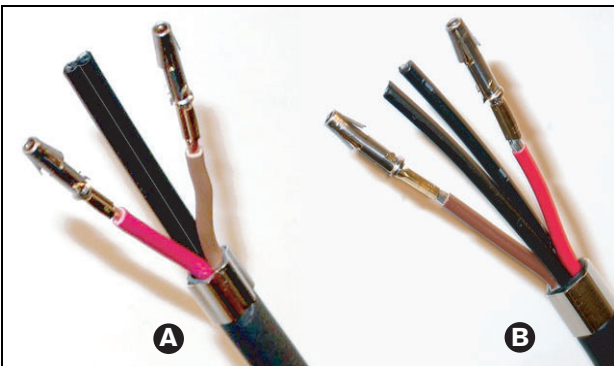

figure 45.15: Mounted socket contacts
- 13 Repeat steps 11 and 12 for the other bare copper wire. Refer to figure 45.15 to see the result of this part of the cable-connector mounting procedure.